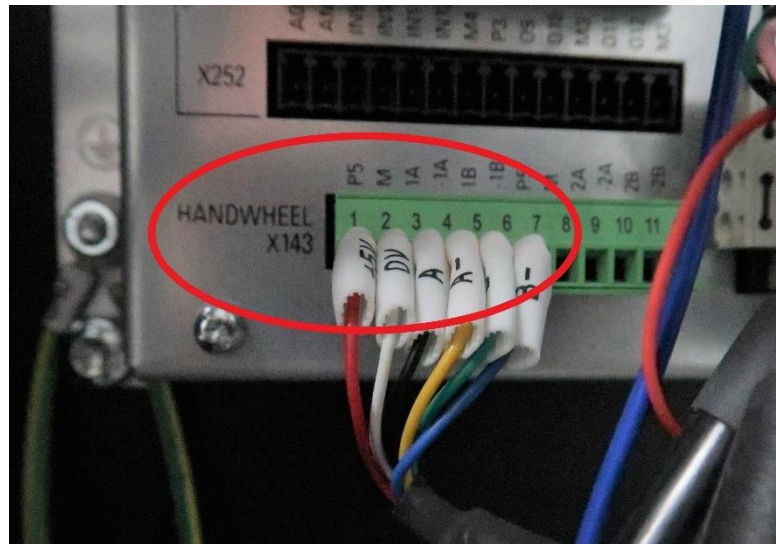

Figure 3.2.
3. Check wires from the EHW to pendant. If needed open pendant rear cover and check wires from bottom of pendant to the individual wires on X134 connector as shown in figure 3.2. Verify wires are continuous and tight from the EHW to the pendant and inside the pendant to X134 connector.